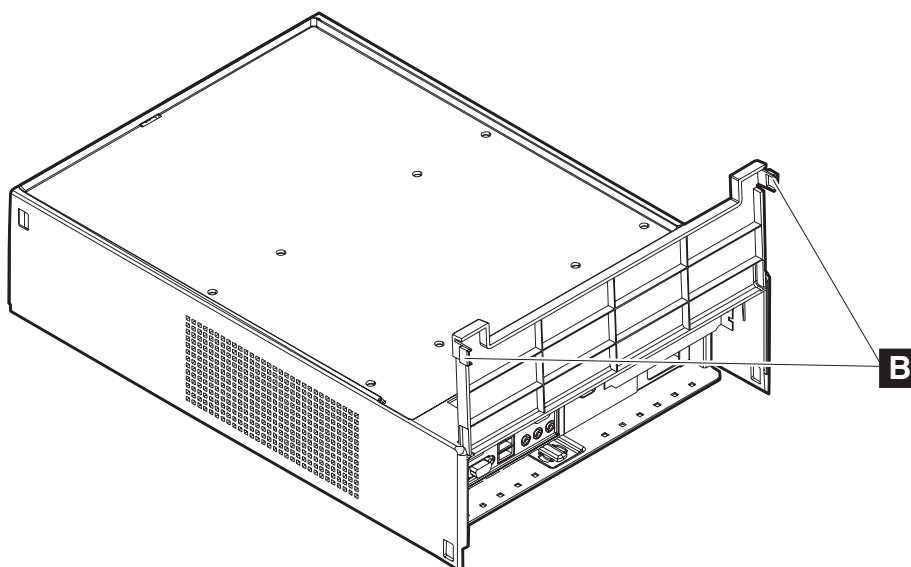

Figure 18. Opening the modesty cover
2. Open the modesty cover by placing your hand firmly in the middle of the modesty cover and pulling. The latches (**B** in Figure 18) will release automatically.